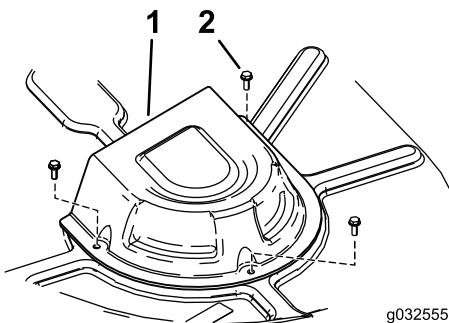

Figure 62
4. Remove the pulley covers (Figure 62).